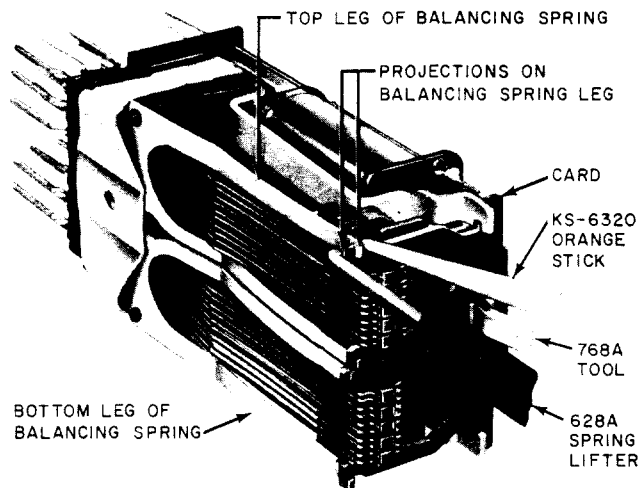

Fig. 6—Method of Removing Balancing Spring Leg From Card
(1) If the balancing spring tension or armature back tension requirements are not met for the upper half of the relay, increase the tension of the top leg of the balancing spring as covered in (2) through (4). If the requirements are not met for the lower half of the relay, increase the tension of the bottom leg of the balancing spring in a similar manner. Do not attempt to adjust the two legs of the balancing spring at the middle of the relay.
(2) Block the relay operated using the 768A blocking tool. In the case of the upper half of the relay, remove the top leg of the balancing spring from the card and, in the case of the lower half, remove the bottom leg. To remove the top leg, hold the 628A balancing spring lifter in the left hand and insert the lifter next to the leg so that the end of the lifter is just behind the comb. Roll the end of the lifter under the leg of the spring so that it rests in the groove of the lifter. Then draw the lifter forward to the position shown in Fig. 6. With the other hand, place the end of the KS-6320 orange stick on the top edge of the card to the right of the balancing spring leg as shown in Fig. 6. Lift the leg of the spring upward with the lifter, and at the same time press the card downward with the orange stick. When the leg of the spring clears the top of the card, move it toward the left so that it is free of the card. Withdraw the lifter. To remove the bottom leg of the balancing spring, proceed as covered above except roll the end of the lifter over the top edge of the spring leg and push the leg downward while pressing upward against the bottom edge of the card with the orange stick.
(3) The legs of the balancing spring are pretensioned as indicated by the bend in each leg; therefore, do not attempt to remove the bend as this would make it impossible to obtain a satisfactory tension adjustment. Exercise care not to slide the spring adjuster over the bend in the spring leg.